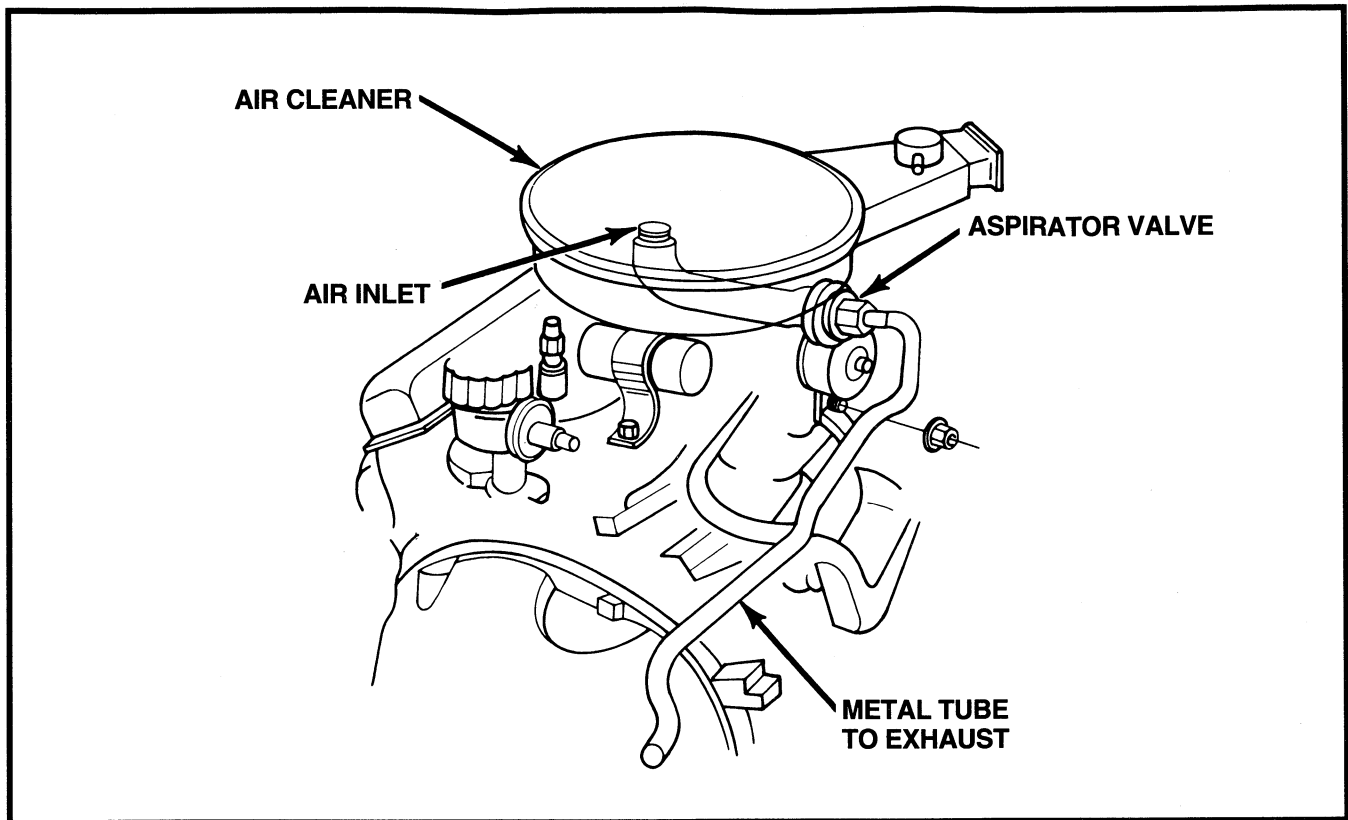

Figure 38 Aspirated Secondary Air System
- ***Aspirated systems*** (fig. 38) utilize negative pressure from the exhaust system to “pull” air into the system.